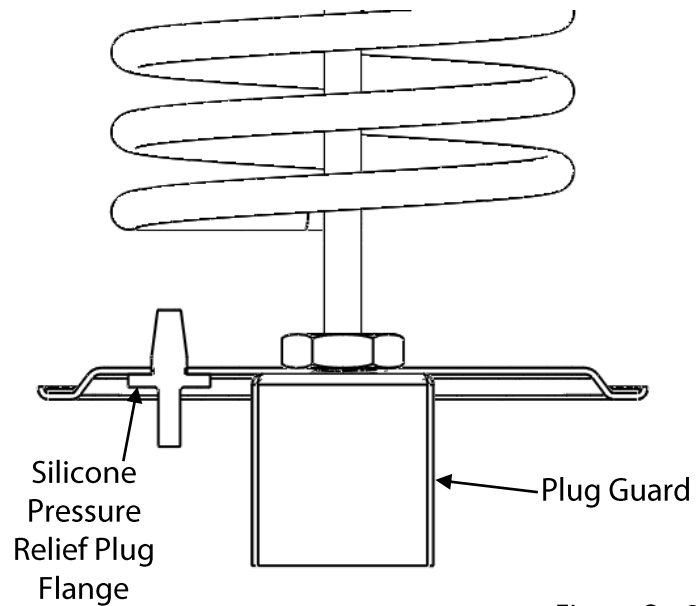

Figure Op-2
Your RIMS Rocket™ electric recirculation heater comes from the factory with a pressure relief device installed to prevent unsafe over pressurization of the canister. When installing the RIMS Rocket™ electric recirculation heater, always make sure the pressure relief device is installed as shown in the sectioned diagram in Figure Op-2. Also, make certain that the bottom of the HopRocket™ canister is oriented in a safe direction in the event of over pressurization. Do not stand or allow children or pets in the area directly below the RIMS Rocket™ electric recirculation heater and HopRocket™ canister.
**ALWAYS** orient the pressure relief device as shown in Figure Op-2. Make sure the flange of the silicone pressure relief plug is located on the same side of the lid as the plug protector.